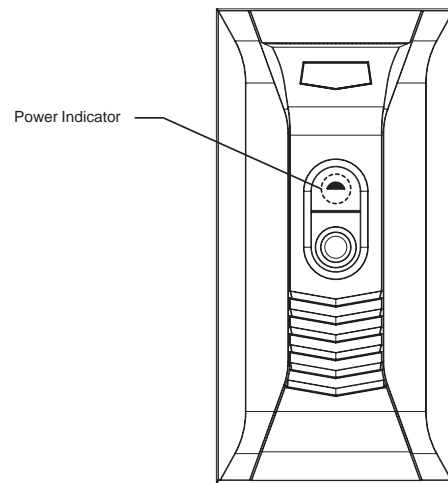

Fig. 8 - Power Indicator
- The power indicator light above the Air Purifier power switch should illuminate (see Fig. 8).
The Perfect Air™ Purifier is equipped with a power indicator light located on the door (see Fig. 8). This power indicator light will illuminate when the Perfect Air™ Purifier door is installed, the power switch is in the on position, AND the furnace blower is running. If the power indicator light is not illuminated, follow the troubleshooting steps below.